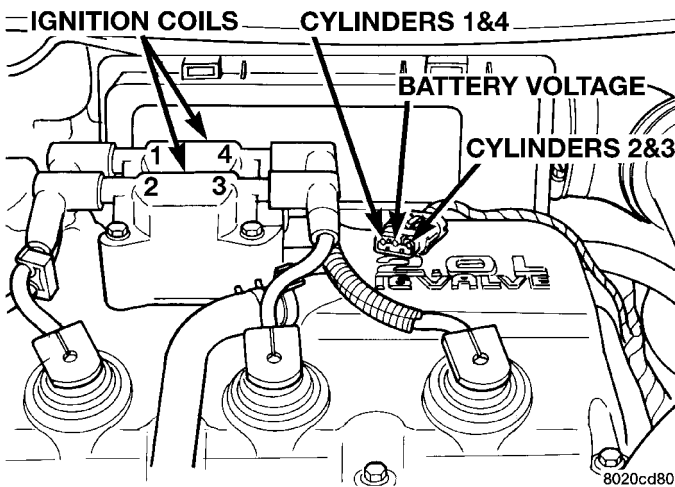

Fig. 20 Ignition Coil Engine Harness Connector
(1) Check battery voltage. Voltage should approximately 12.66 volts or higher to perform failure to start test.
(2) Disconnect the harness connector from the coil pack (Fig. 20).
(3) Connect a test light to the B+ (battery voltage) terminal of the coil electrical connector and ground. The B+ wire for the DIS coil is the center terminal. **Do not spread the terminal with the test light probe.**